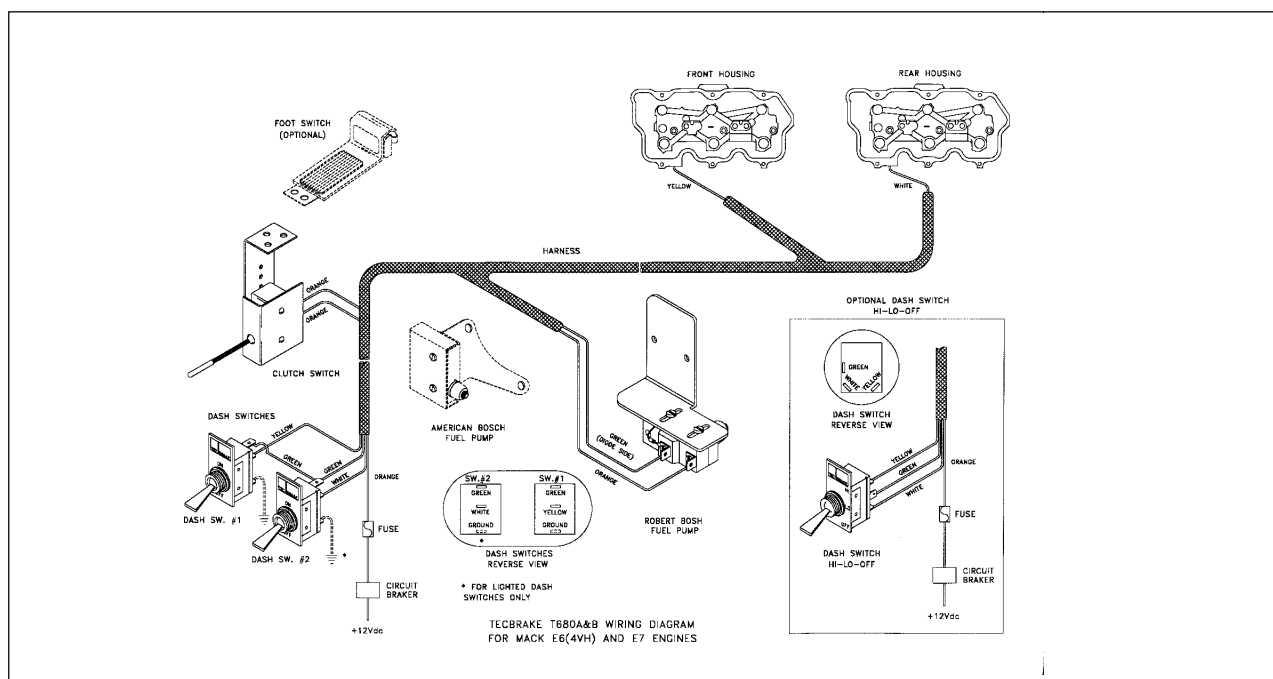

Figure 4-1
Installation of the electrical system involves the mounting of dash switches, a clutch switch, and a fuel pump switch. An optional foot switch may be installed in place of the clutch switch. Wiring harnesses are provided in the kit to complete the installation. Refer to the wiring diagram Figure 4-1.
2. Install the remainder of the wiring following the instructions included with the universal wiring harness and wiring diagram shown in Figure 4-1.